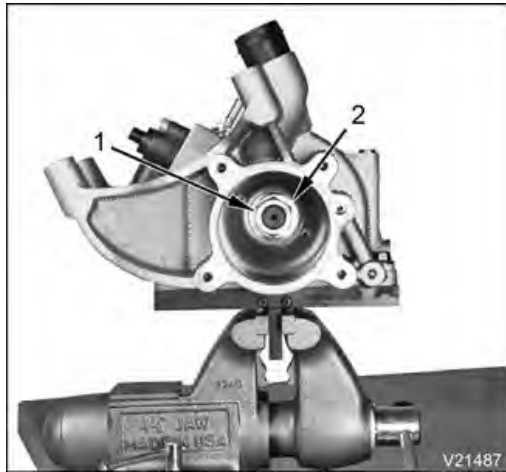

Figure 15. Holding Plate and Drive Housing
30. Remove jam nut and washer securing pump gear to pump shaft (Figure 15).